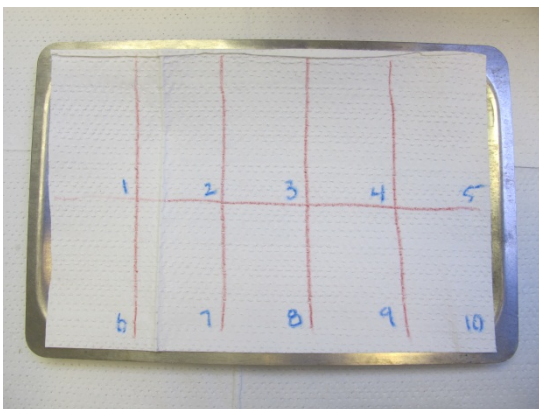

Figure 1
2. Make a sample tray by cutting a wypall (heavy duty paper towel) in half. Place it on a metal tray and draw a grid on it. Write the numbers assigned to the billets on the grid (Fig. 1).